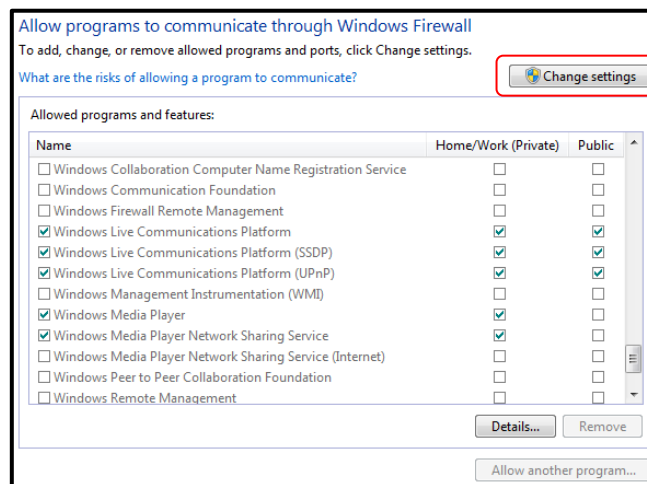

Figure 86 - Enabling firewall settings changes
3. Click the “Change settings” button. Refer to Figure 86.